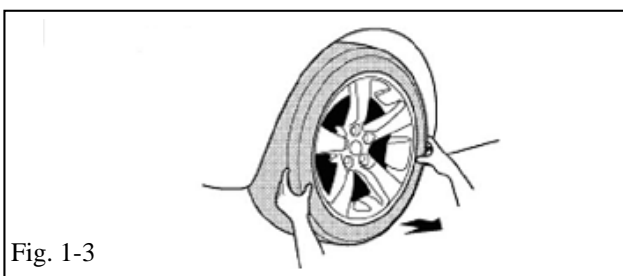

Fig. 1-3
-  (e) Remove the OE wheel and tire assembly from the vehicle (Fig. 1-3). Wear safety glasses while removing the wheels.